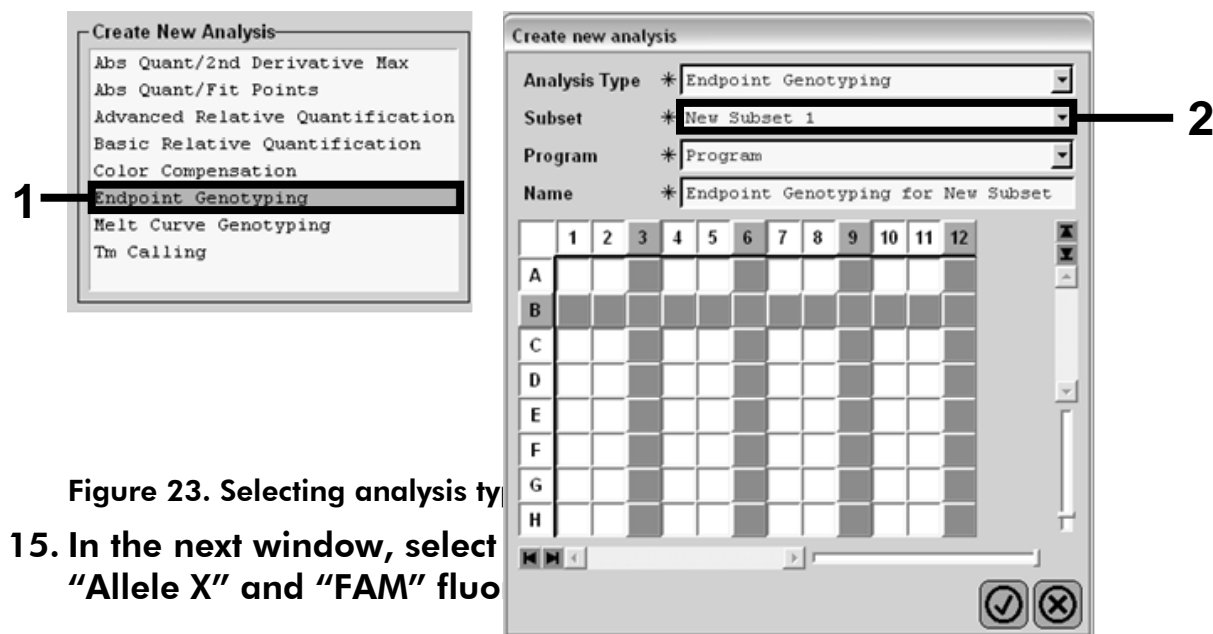

Figure 23. Selecting analysis type
14. In the “Create New Analysis” dialog box, select “Endpoint Genotyping”, and then select the subset to analyze in the “Subset” menu (Figure 23).